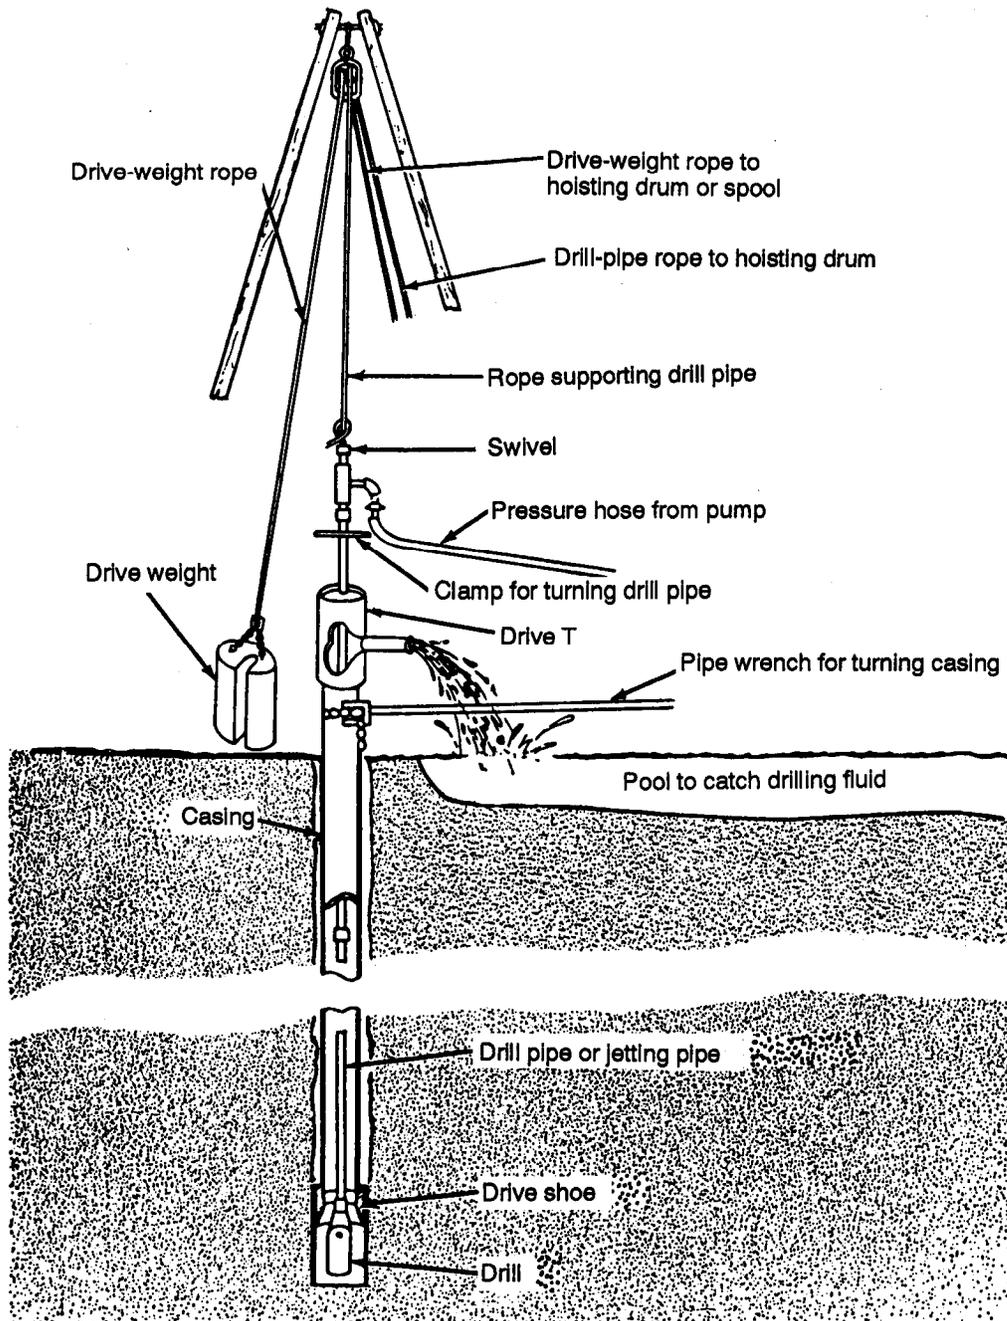

Figure 9-2. Percussion-type drilling rig
(4) Hoist. You need a hoist to handle the drill pipe and casing. You may use hand-operated equipment such as a tripod with tackle. If available, you should use a percussion-type drilling rig with a power hoist (Figure 9-2).
(5) Pump. A pump with suitable hose connection able to deliver 50 to 100 GPM at 50 psi is adequate. The quantity of water needed to jet a well varies with the type of sediment being penetrated. Sand requires the most water; however, high pressure is not necessary. A nozzle pressure of 40 psi is usually sufficient. Clay and hardpan require less water. However, they are not